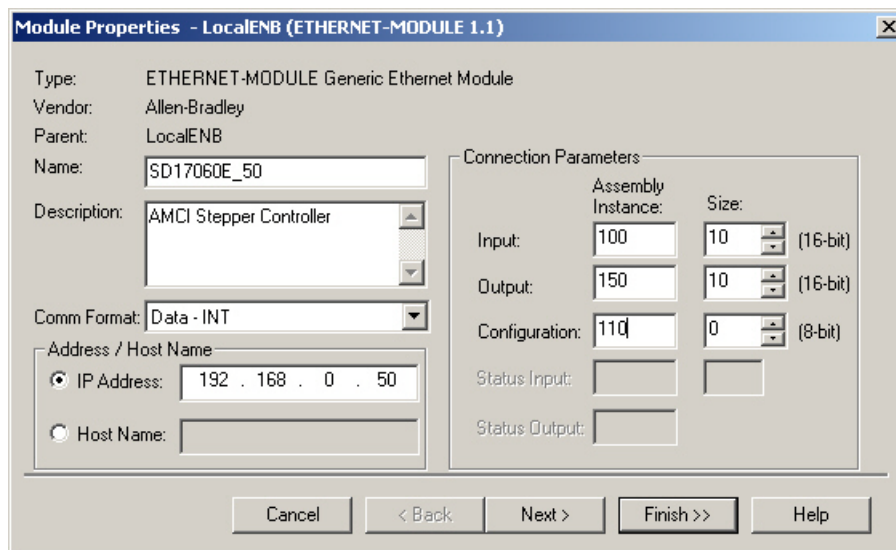

Figure 6.4 Sample SD31045E Configuration Screen
- 3) Set the following parameters in the Module Properties window. All parameters not listed here are optional. Figure 6.4 shows a completed screen.